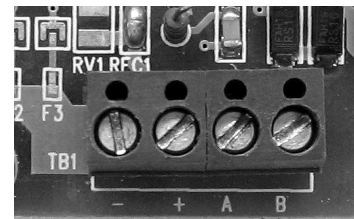

Fig. 1. Terminals from left to right: Power: NEG (-), POS (+), Telco: Tip (A), Ring (B).
- Press the test button (S1) located on the bottom right corner; the unit transmits and the LED displays one long "blink" (see Fig. 1). Observe the coverage LED, count the number of blinks and compare to the Coverage Table (right). Move the unit as required to achieve the best coverage (signal strength) possible. As needed, re-position the unit, re-transmit and observe the Coverage LED to indicate the change. The unit will not transmit until 15 seconds have passed since the last test. **Note:** There is a 2-second delay between blink cycles.